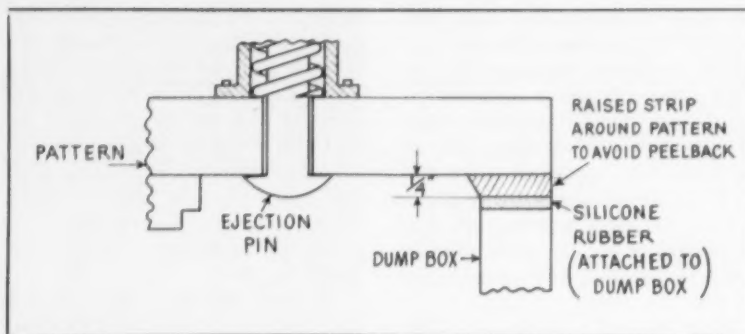

Fig. 1 . . Peeling can be avoided by raised strip on pattern or frame.
1. *Improved pattern-dumpbox seal.* The addition of a raised strip around the outside of the pattern separates the shell build-up from the dumpbox, thus eliminating a pulling away of the shell by the dumpbox when the pattern is lifted off. This raised strip may be attached to the pattern or may be a part of the pattern frame (Fig. 1).